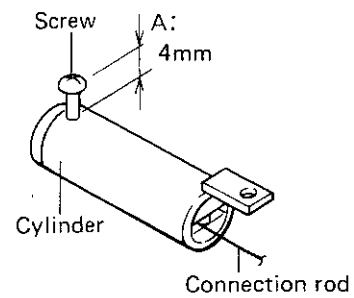

Fig. 8-5 Adjustment screw height
1. Adjust height A of the sealing adjustment screw to 4mm as shown in Fig. 8-5.